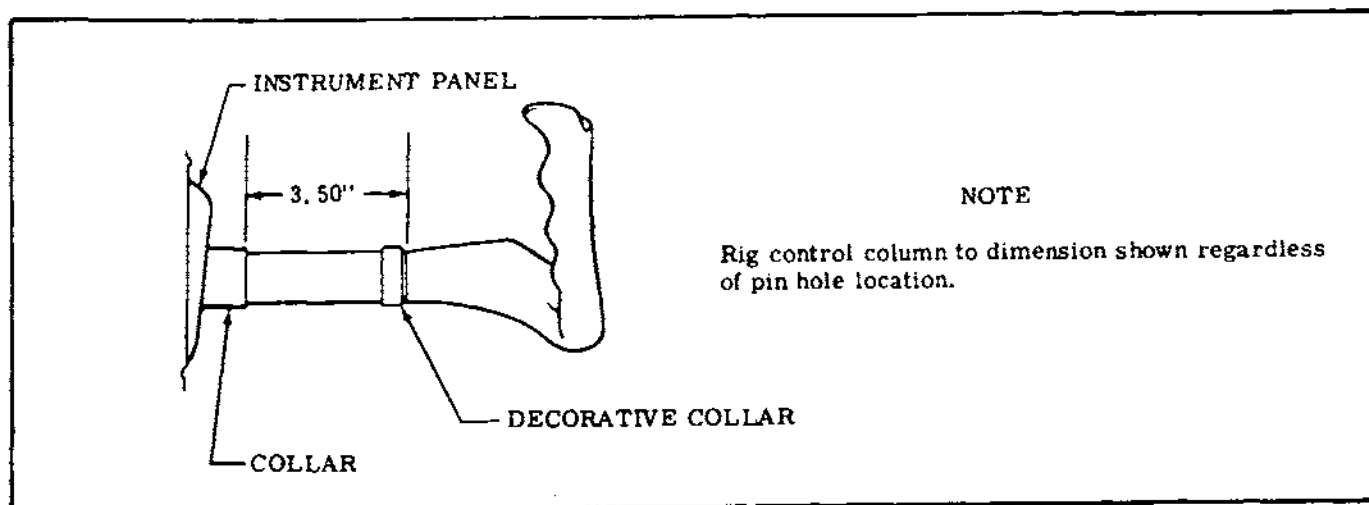

Figure 8-3. Control Column Neutral Position
- a. Relieve cable tension at turnbuckles (16).
- b. Block control wheel in neutral position illustrated in figure 8-3.
- c. Adjust turnbuckles (16) as necessary to set stabilator to neutral while maintaining proper cable tension.